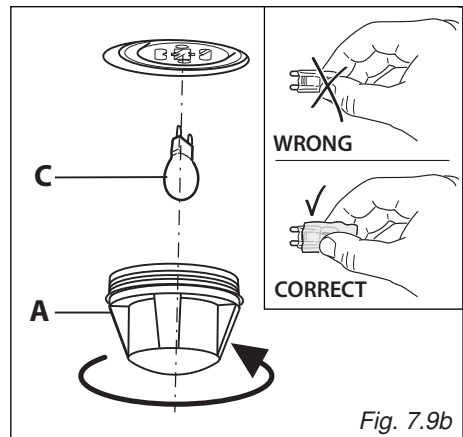

Fig. 7.9b
- Remove the protective cover “A” (fig. 7.9b).